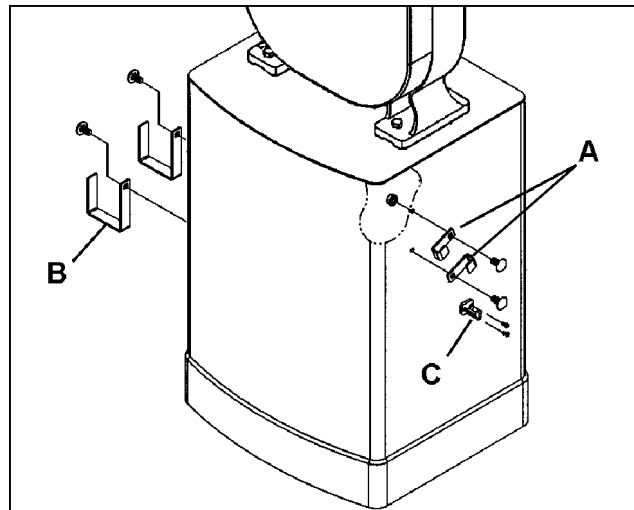

Fig. 12
24. Mount the two miter gauge hooks (A, Fig. 12) to the side of the stand with two M8 x 16 carriage bolts and two flanged hex nuts. When not in use, the miter gauge can be placed in these hooks (see "Miter Gauge", page 23).
25. Mount the blade hook (C, Fig. 12) with two M4 x 10 pan head screws as shown. The blade hook will hold a rolled-up spare blade.
26. Mount the two fence hooks (B, Fig. 12) to the opposite side of the stand with two M8 x 16 carriage bolts and two flanged hex nuts. When not in use, the rip fence can be placed in these hooks.